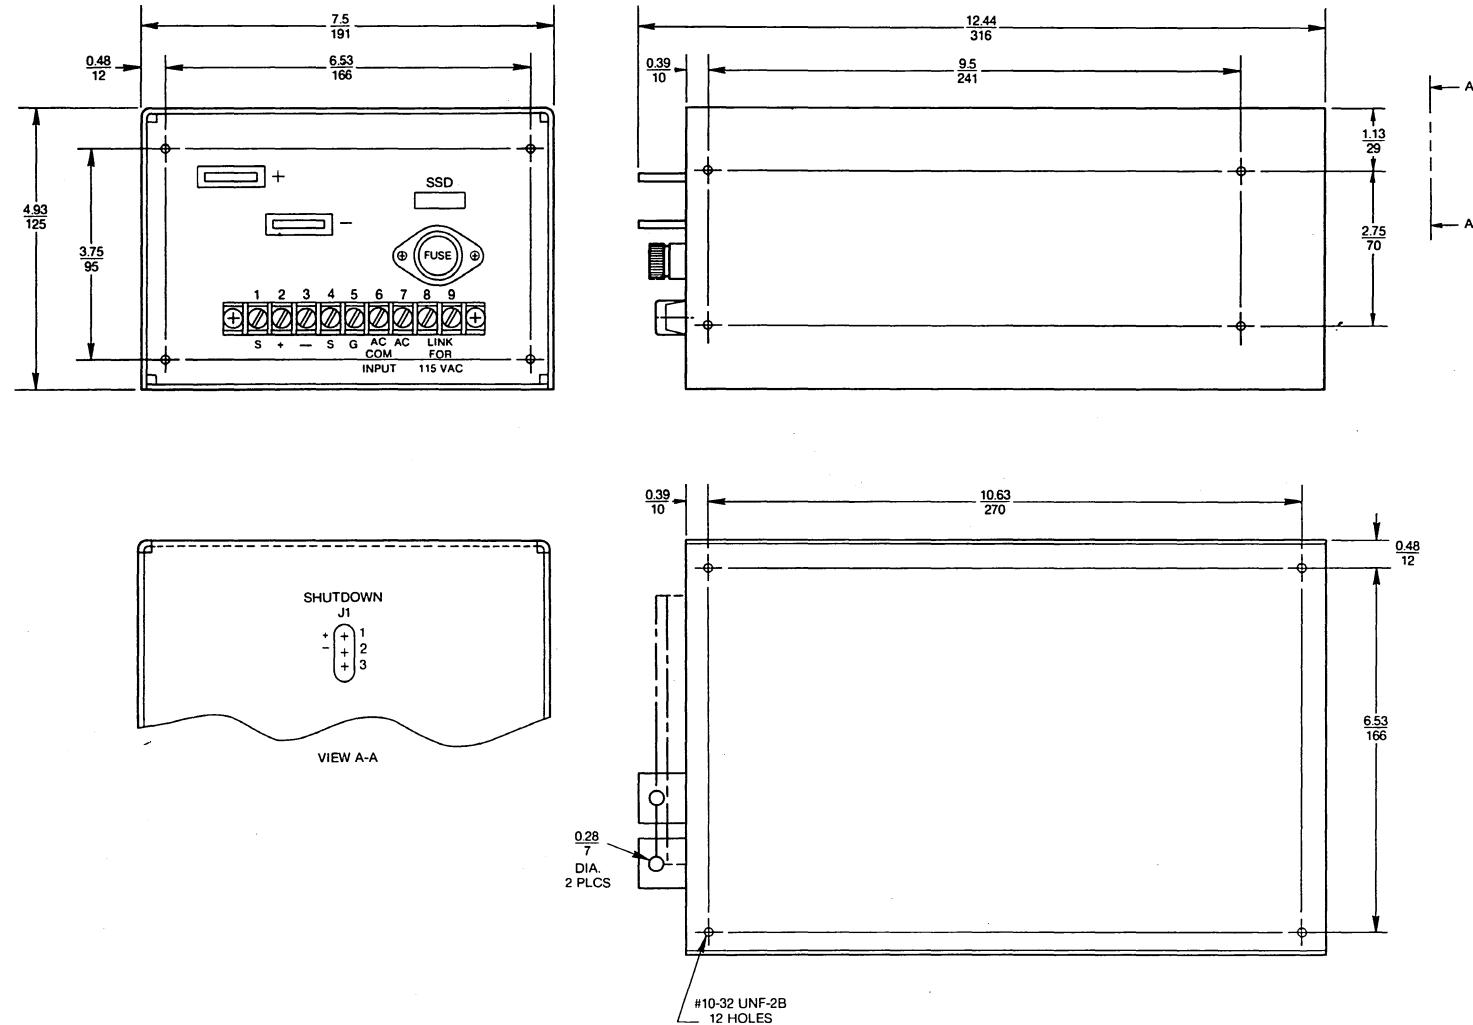
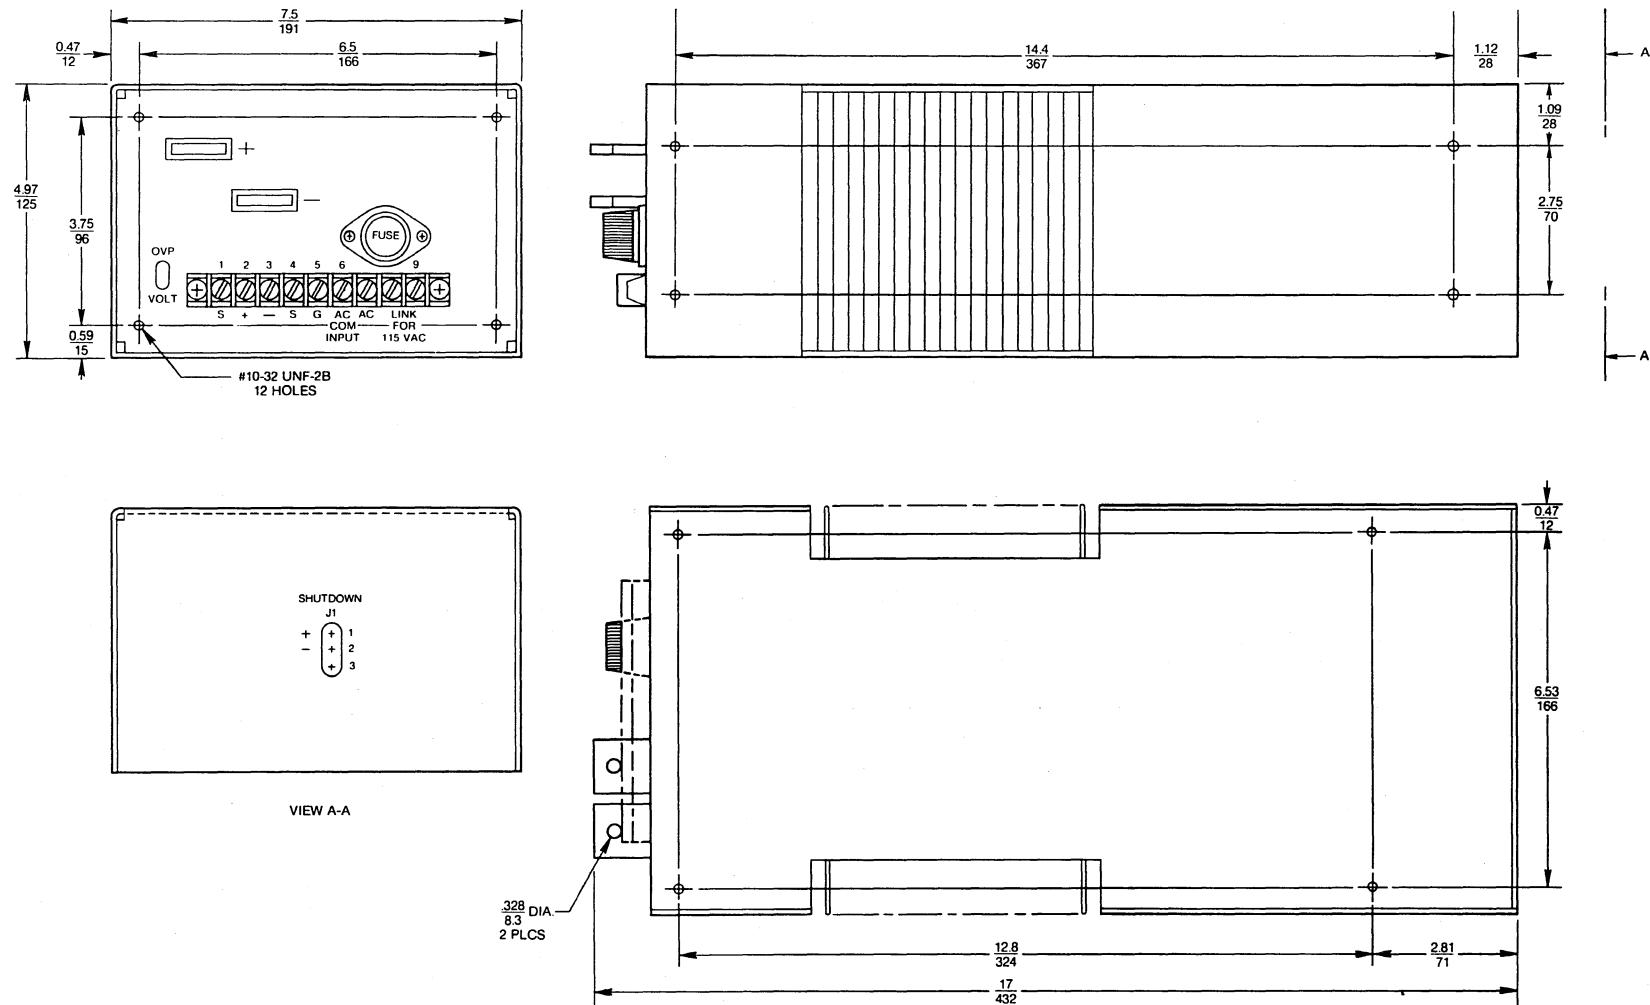

Figure 2-1
Figure 2-2, Outline Drawing,
2) Fabricate knockout panels as shown in Figure 2-2. Figure 2-1 is an overall outline drawing of the SSD modules. (Consult factory for specific mounting data.)
End mounting - Use knockout per Figure 2-2. This knockout clears the terminal block and fuses.
Side mounting - No knockout is needed. Use the four mounting holes shown in Figure 2-2.
Bottom mounting - Use knockout per Figure 2-2.